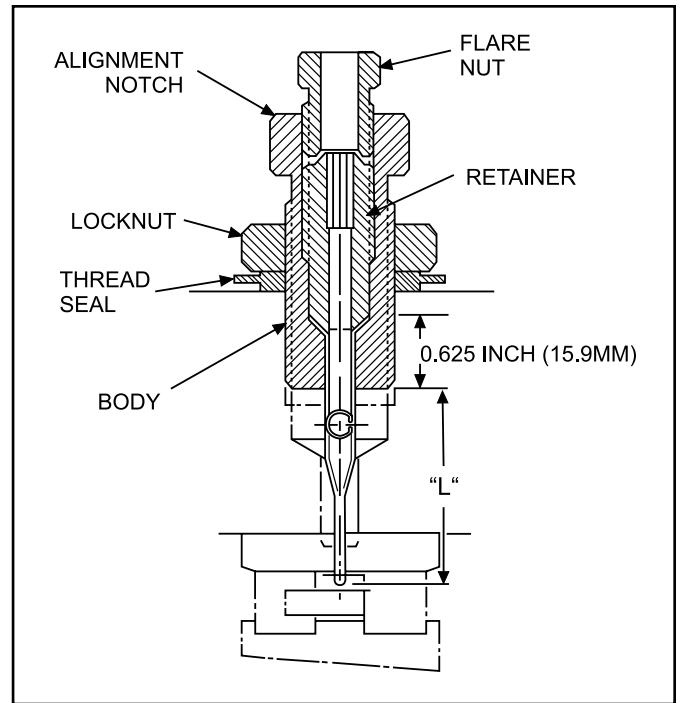

Figure 2-7. Nozzle Tube Installation
shipped in 10-inch lengths and must be cut to proper length for each installation. Figure 2-7 shows a typical installation of a nozzle tube and should be referred to during the following procedure:
- a. Determine length of nozzle tube required by reviewing machining head prints. This is dimension “L” on Figure 2-7 Allow 0.625 inch (15.9 mm) extra length for flare and internal length on nozzle assemblies.